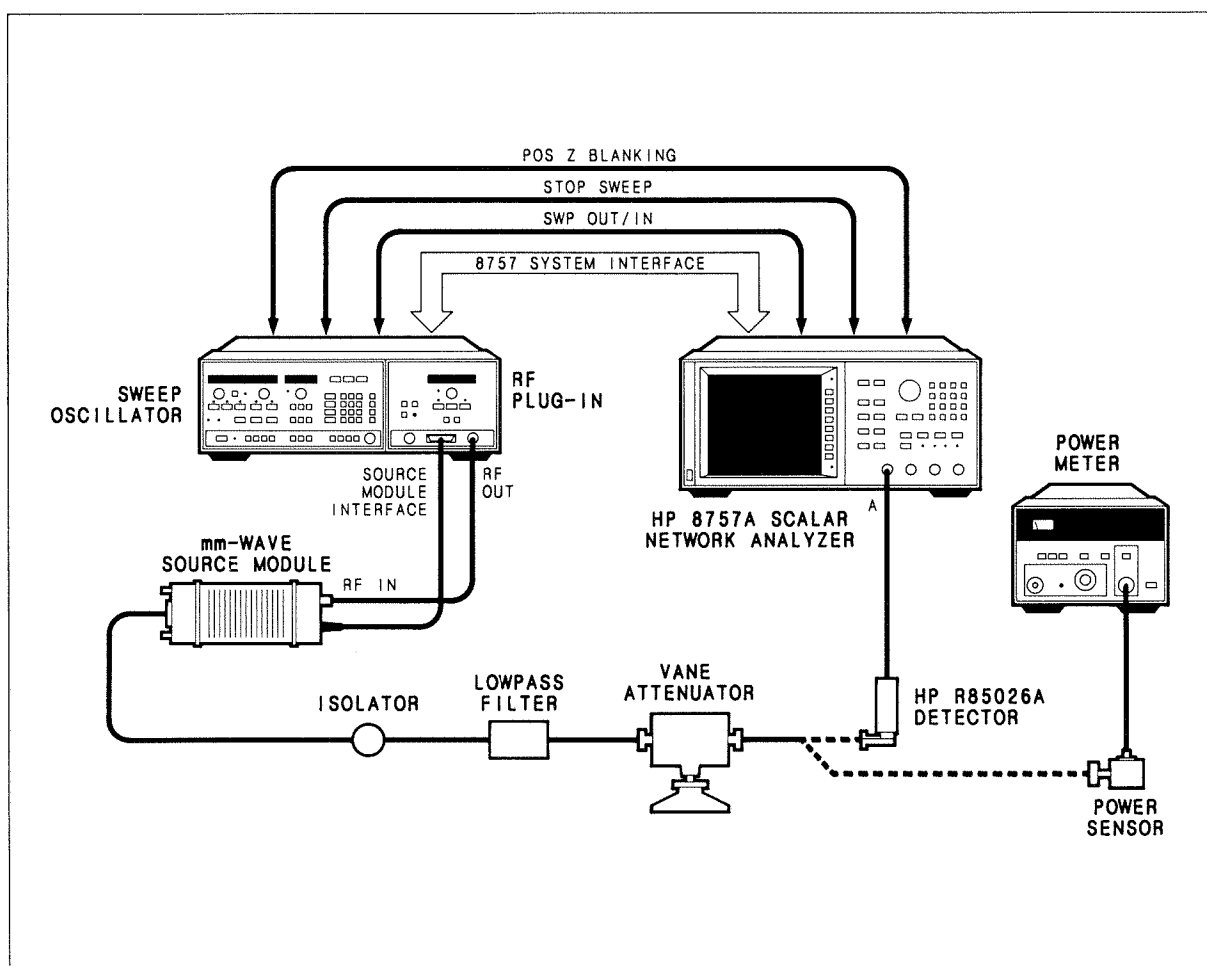

Figure 3-3. Dynamic Accuracy Test Setup
1. Connect the equipment as shown in Figure 3-3 with the power meter connected to the HP R382A attenuator. Allow the equipment to warm up for 30 minutes.